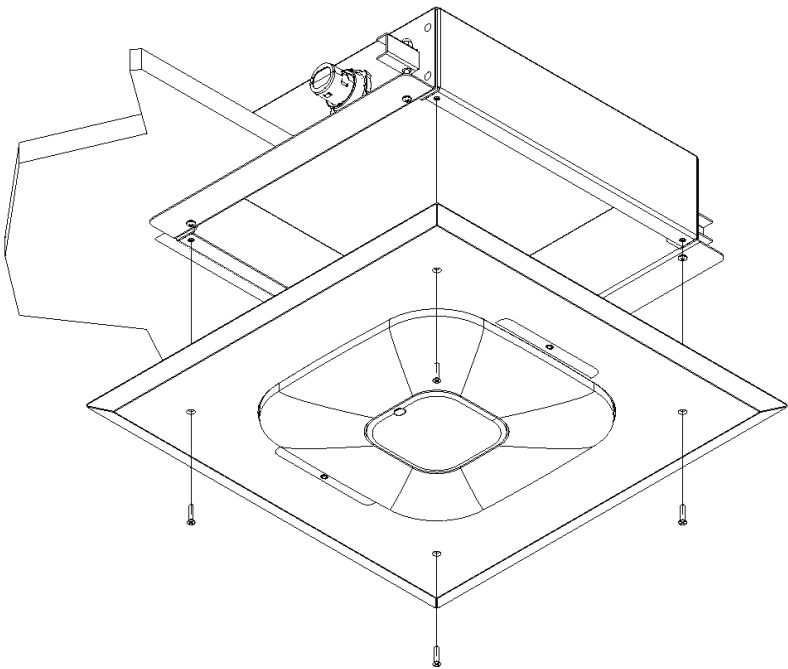

Figure 5 – Trim Install
Step 3 - Loosen the thumb nuts by approximately 1 or 2 turns to allow the bracket to slide in the slots located beneath the thumb nuts. Place the access point in the opening (*Figure 5*).
Step 7 – Once the access point is secured and Ethernet are connected, screw the trim with access point into the installed back box using the provided painted screws (Figure 5). The installation is now complete.